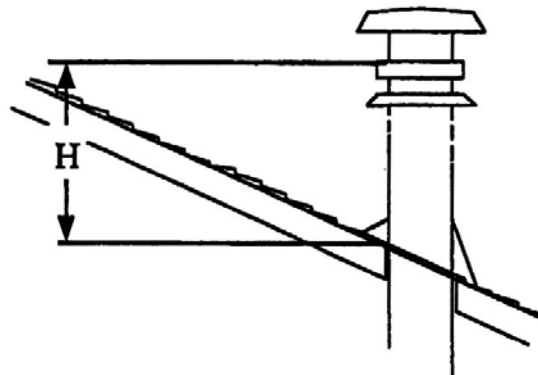

Figure 13
- Continue to add Pipe Sections until the height of the Vent Cap meets the minimum building code requirements described in Figure 13. Note that for steep roof pitches, the vent height must be increased. High wind conditions, nearby trees, adjoining roof lines, steep pitched roofs, and other factors can result in poor draft, or down drafting. In these cases, increasing the vent height may solve this problem.